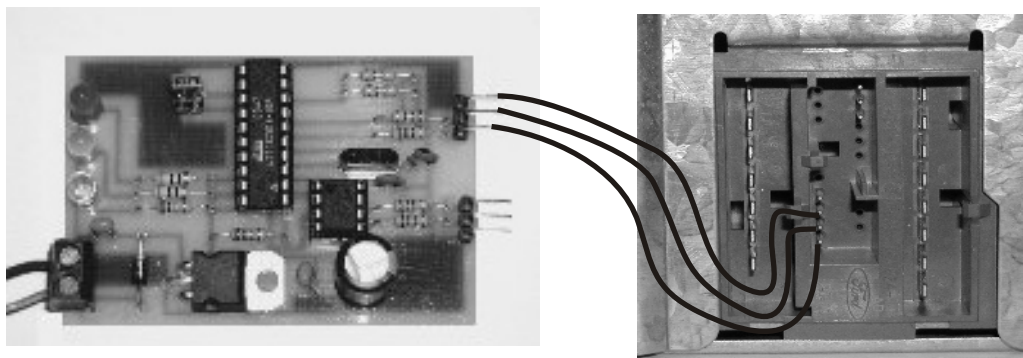

Figure 3
- Connect the E-13 to car radio according with Figure 3